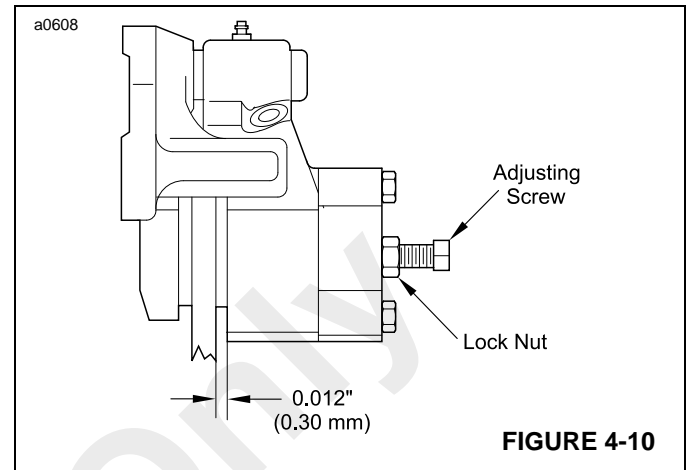

FIGURE 4-10
2. Loosen the lock nut (Figure 4-10) and the adjusting screw.